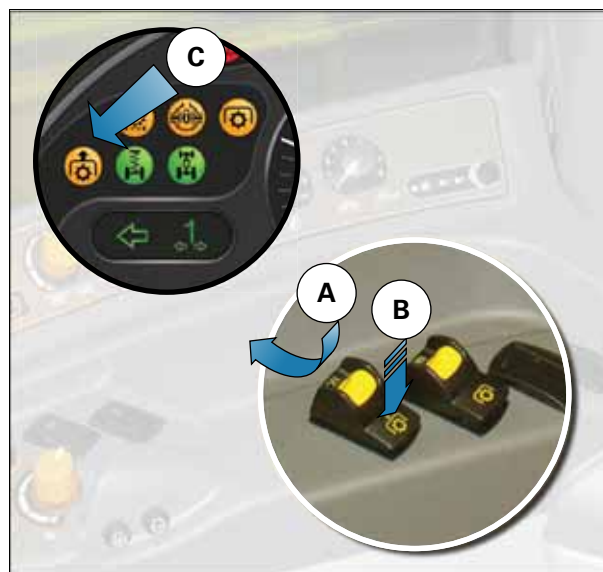

Fig. 1.
To stop the PTO, press the selector switch as shown by (B) .fig. 1